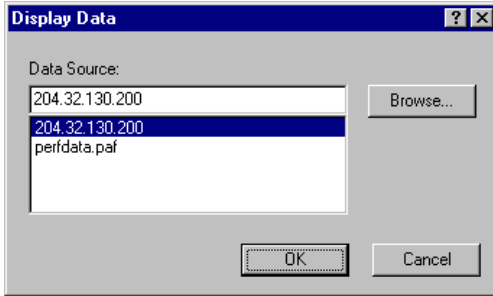

Figure 5-34. Display Data
1. Click Display Data. A Display Data dialog box opens (Figure 5-34).